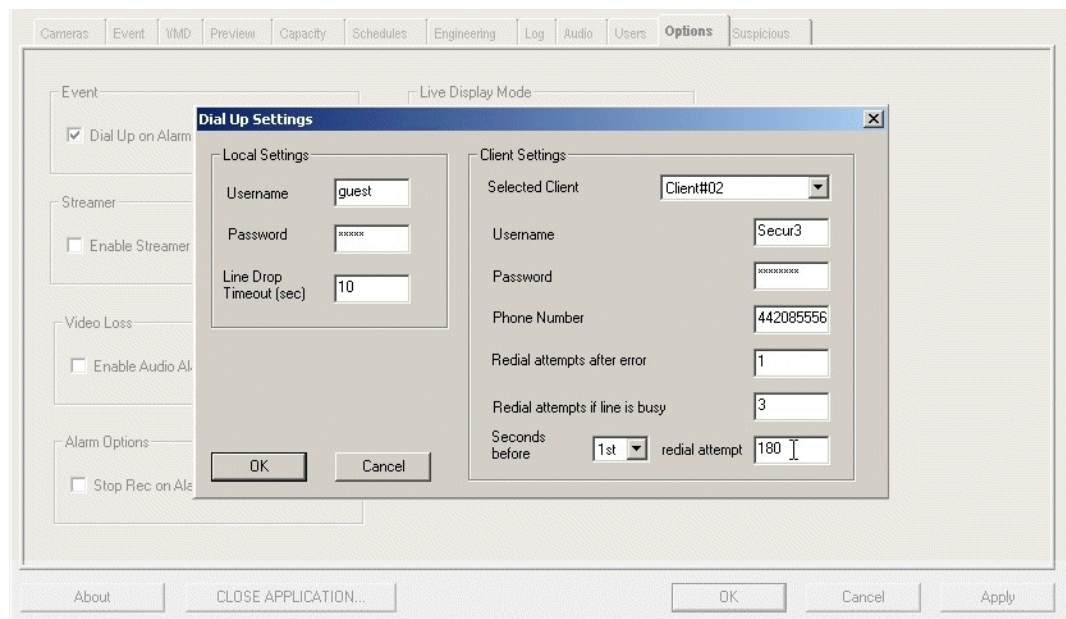

Figure 6-14: Configuring settings for Dial-Up on Alarm
- Click the **Configure** button to open the **Dial-Up Settings** dialog, shown in Figure 6-14.